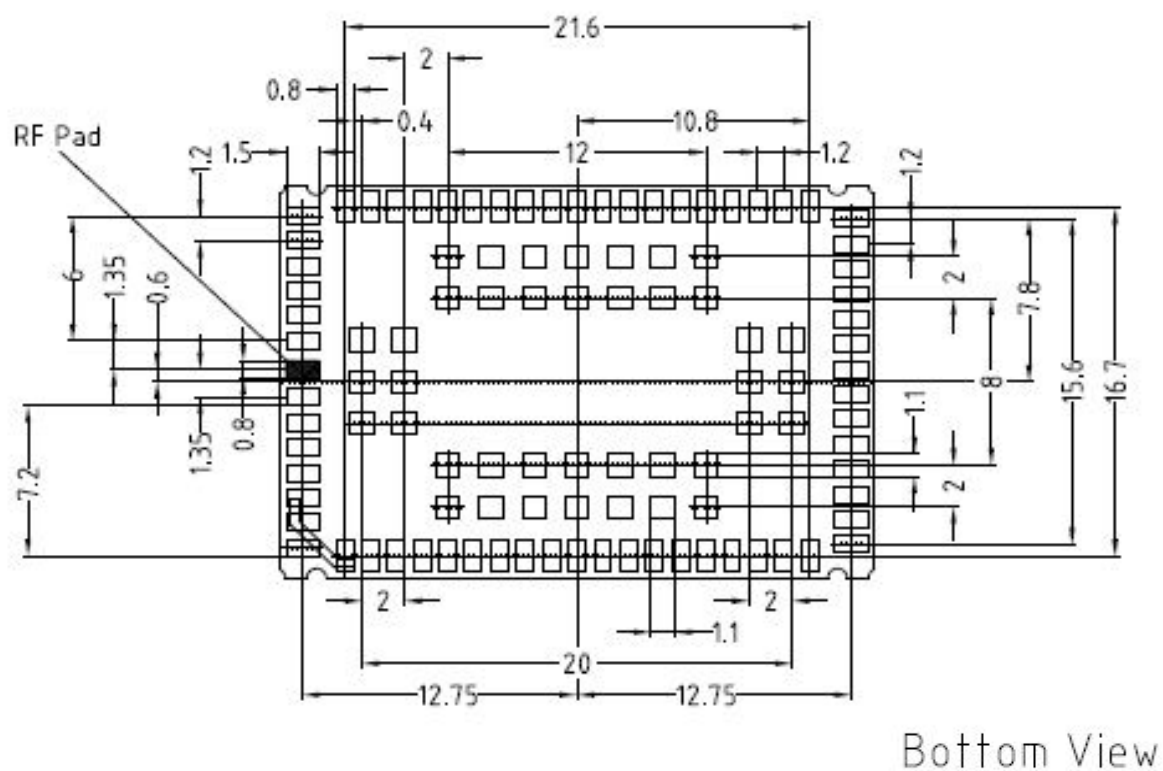

Figure 8: Dimensions of EMS31-US (all dimensions in mm) - bottom view
4.1	Replaced old Figure 7 and Figure 8 to up-to-date figures.